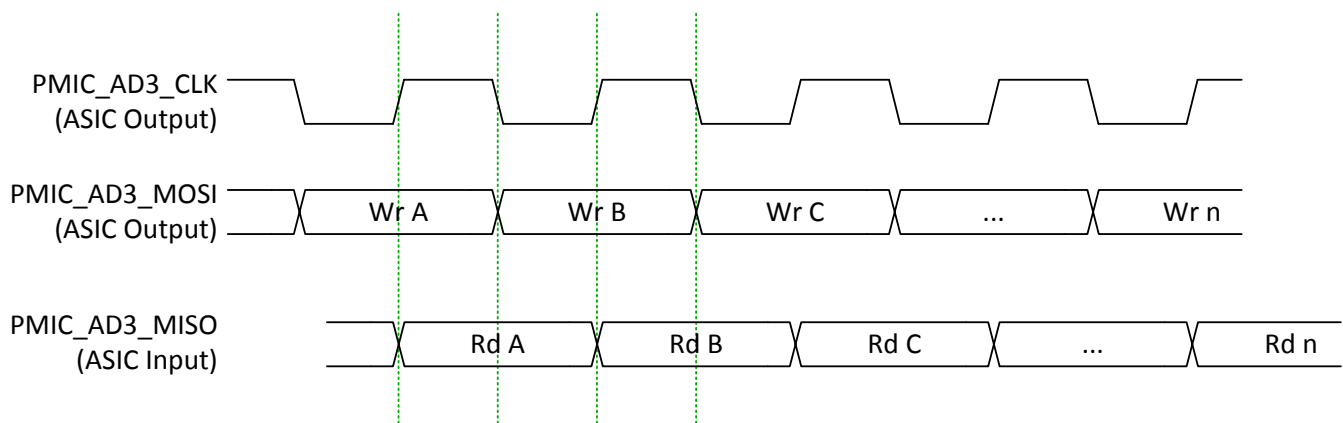

Figure 5-12. TPS99000-Q1 AD3 Data Capture and Transition
- (1) The DLPC23x-Q1 communicates with the TPS99000-Q1 using a slight variant of SPI Transfer Mode 0 (that is, clock polarity = 0, clock phase = 0). Instead of capturing MISO data on the clock edge opposite from that used to transmit MOSI data, the DLPC23x-Q1 captures MISO data on the same clock edge used to transmit the next MOSI data. As such, the DLPC23x-Q1 SPI interface to the TPS99000-Q1 requires that MISO data from the TPS99000-Q1 remain active until the end of the full clock cycle to allow the last data bit to be captured. This is shown in Figure 5-12.